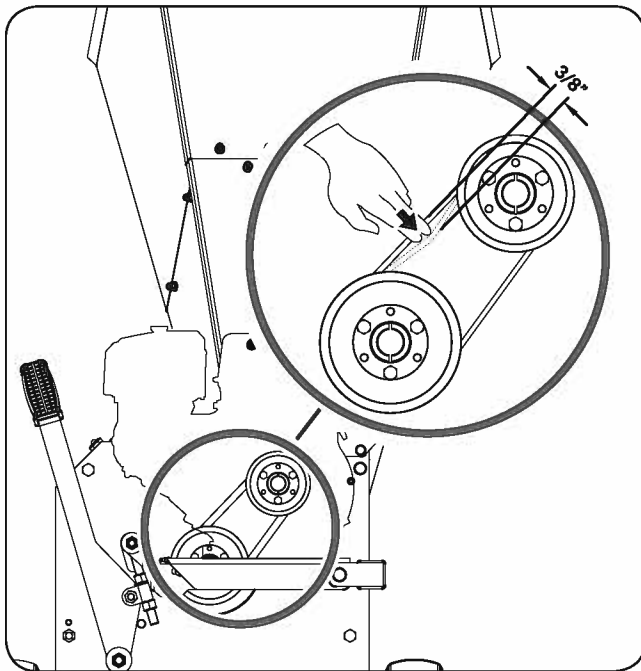

Figure 23
- Check the V-belt tension by squeezing them in the center. The normal indentation on each side should be approximately 3/8 inch with moderate pressure from your thumb or finger. (See **Figure 23**)